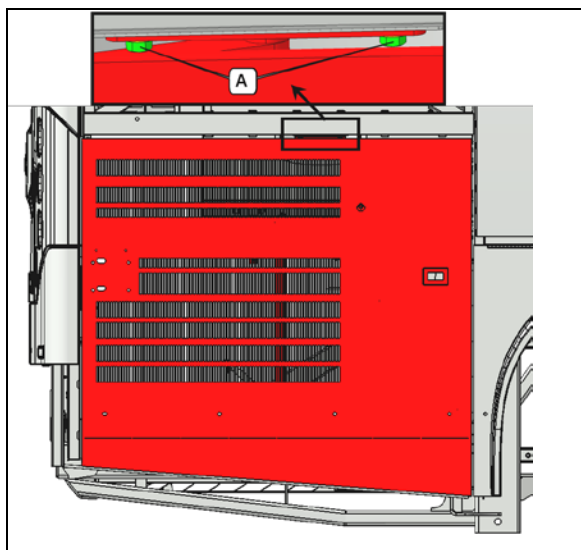

FIGURE 111
2. Make sure bolts A are tight (FIGURE 111).